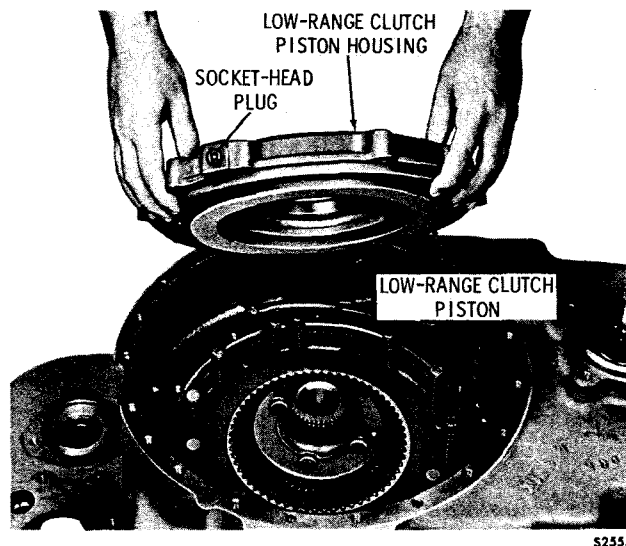

Fig. 5-26. Removing low-range clutch piston housing and piston
(3) Remove the low-range clutch piston housing and piston as an assembly (fig. 5-26). Remove the low-range clutch piston from the low-range clutch piston housing. Do not remove sealrings unless replacement is necessary. If necessary, refer to paragraph 6-19 for clutch piston assembly rebuild instructions.
(4) Do not remove the socket-head plug from the low-range clutch piston housing unless necessary for replacement, or cleaning of the oil passage (fig. 5-26).